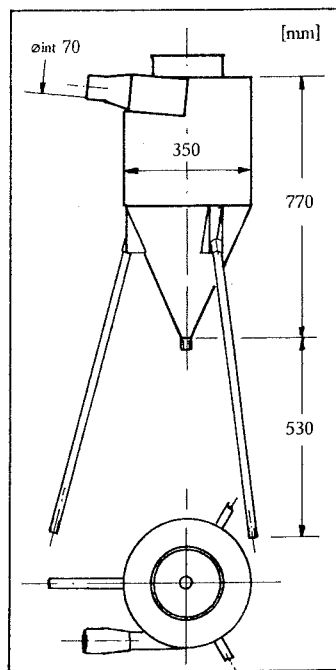

Fig. 2
3. A cyclone (Fig. 2 - see next page) to separate the shot, with preferably a filtering bag on the upper outlet. It can also be connected to the machines' exhaust system, but hardly any pressure difference is allowable.